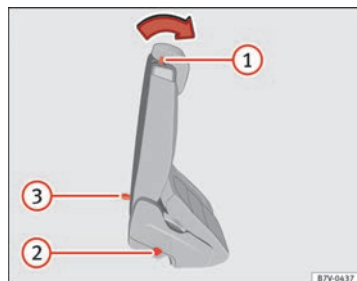

Fig. 81 Second row of seats: convenient entry function controls.
- Remove any objects located in the floor area of the second row of seats, where applicable ⇒ ⑩.
- Push the lever ⇒ fig. 81 (1) forwards and fold the backrest of the rear seat. The seat can still be moved forwards when rear seat is folded completely forwards ⇒ ⚠.